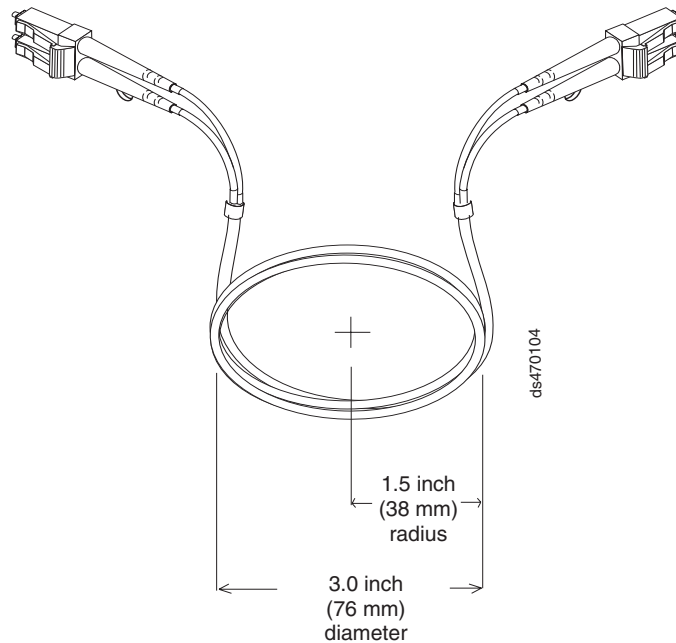

Figure 19. Recommended bending and looping specifications for fibre-optic cables
**Important:** IBM Fibre Channel (FC) cable options have been tested and approved for the IBM DS storage products. For optimal performance and compatibility, always use IBM FC cable options when installing the IBM DS products.
- When storing excess or unused fibre-optic cables, do not bend the cables to a diameter of less than 76 mm (3 in.), or a radius less than 38 mm (1.5 in.) or wrap them around themselves. See Figure 19 on page 45.